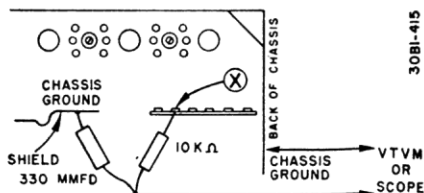

Figure 3-2. VTVM or Scope Connections.
- Connect RC filter of 10,000 ohm resistor and 330 mmfd. condenser in series from point "X" to chassis. See figure 3-2. Leave connected for all steps in this alignment.
2. Connect oscilloscope between point "X" and chassis ground through a decoupling filter (see figure 3-2). Keep leads away from receiver.
To avoid distortion of the response curve, keep the sweep generator and marker generator outputs at a very minimum. Marker pip (25.75 MC) should be just kept barely visible. Setting sweep generator output for VTVM reading from .5 to 1 volt DC (measured from decoupling network at point "X" and chassis, figure 3-2) will avoid distortion of response curve.